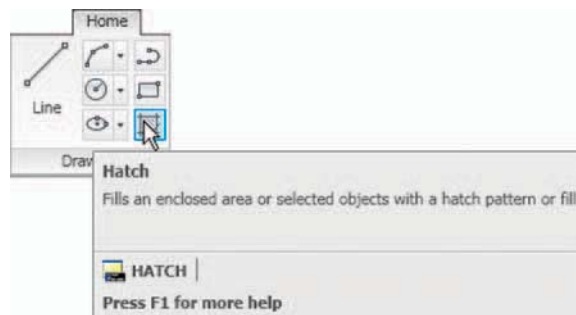
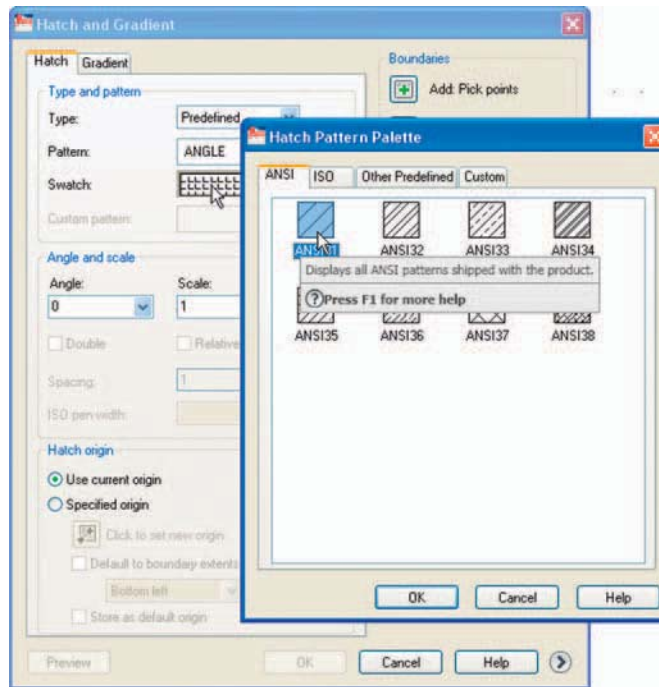

Fig. 7.11 The **Hatch** tool icon and tooltip from the **Home/Draw** panel
Fig. 7.12 The **Hatch and Gradient** dialog and the **ANSI Hatch Pattern** palette
1. Call the **Hatch** tool – either *left-click* on its tool icon in the **Home/Draw** panel (Fig. 7.11), *click* the tool in the **Draw** toolbar, or *enter h* at the command line. (*Note* – do not *enter hatch* as this gives a different result). The **Hatch and Gradient** dialog (Fig. 7.12) appears.